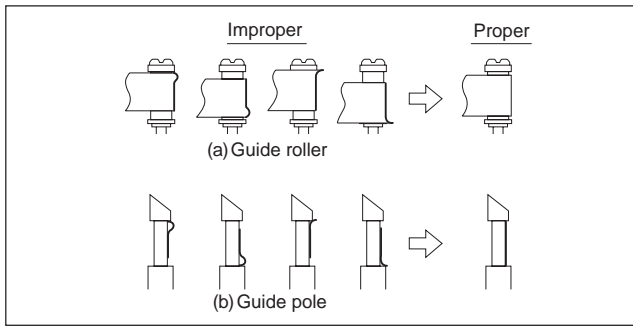
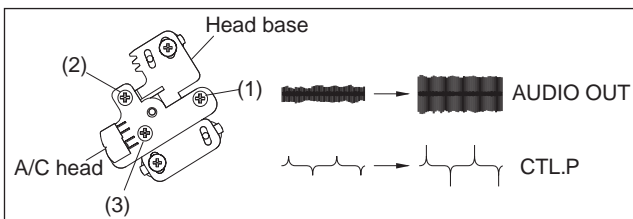

Fig.3-3-2b
Fig.3-3-3a
- (5) Reduce the V.PB FM waveform by the tracking operation. If a drop in level is found on the left side, turn the guide roller of the pole base assembly (supply side) with the roller driver to make the V.PB FM waveform linear. If a drop in level is on the right side, likewise turn the guide roller of the pole base assembly (take-up side) with the roller driver to make it linear. (See Fig. 3-3-3a.)
- (6) Make sure that the V.PB FM waveform varies in parallel and linearly with the tracking operation again. When required, perform fine-adjustment of the guide roller of the pole base assembly (supply or take-up side).
- (7) Unload the cassette tape once, play back the alignment tape (A1) again and confirm the V.PB FM waveform.
- (8) After adjustment, confirm that the tape wrinkling does not occur at the roller upper or lower limits. (See Fig. 3-3-2b.)